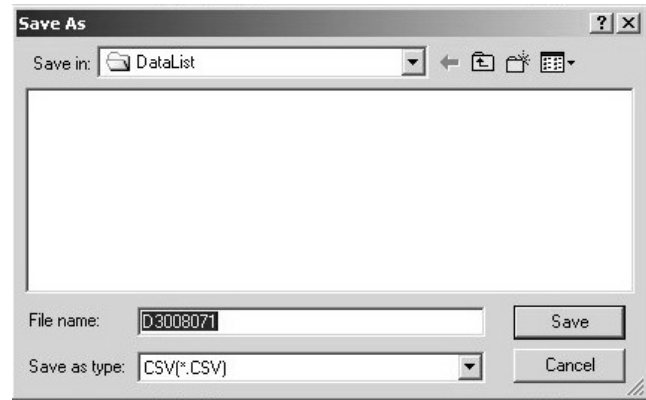

Fig.53
- The “Save As” dialog box (Fig.53) appears.